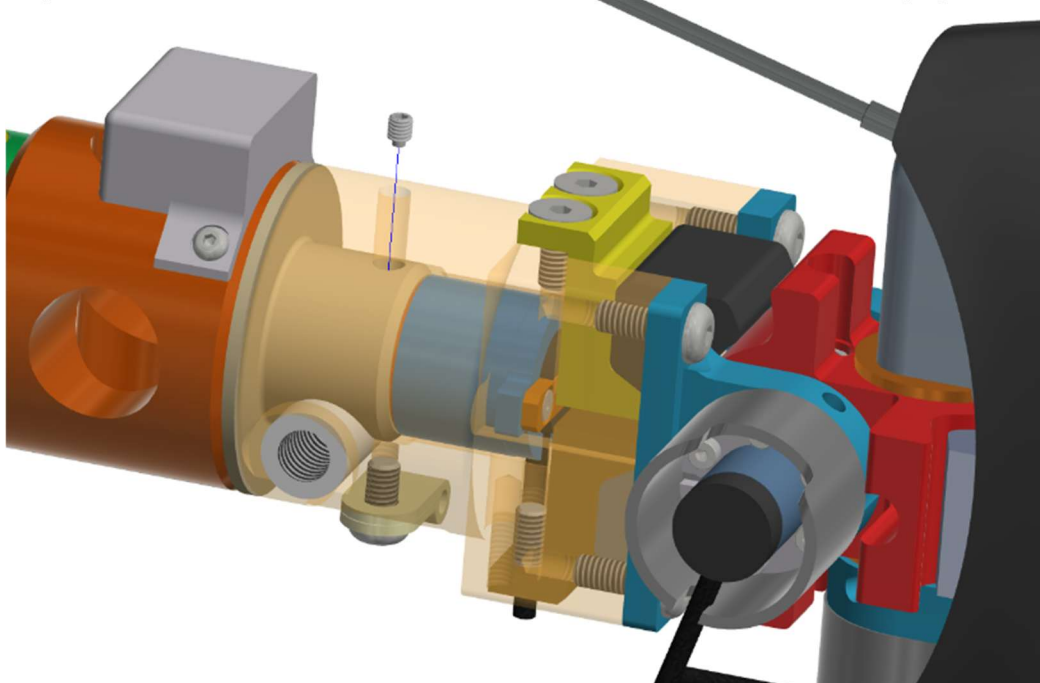

Figure 10-61. Tighten the M3 X 0.5 X 3 LG. SSSNP in the Lower Tibia Load Cell
10.3.26 Tighten the M3 X 0.5 X 3 LG. SSSNP in the Lower Tibia Load Cell (Figure 10-61).